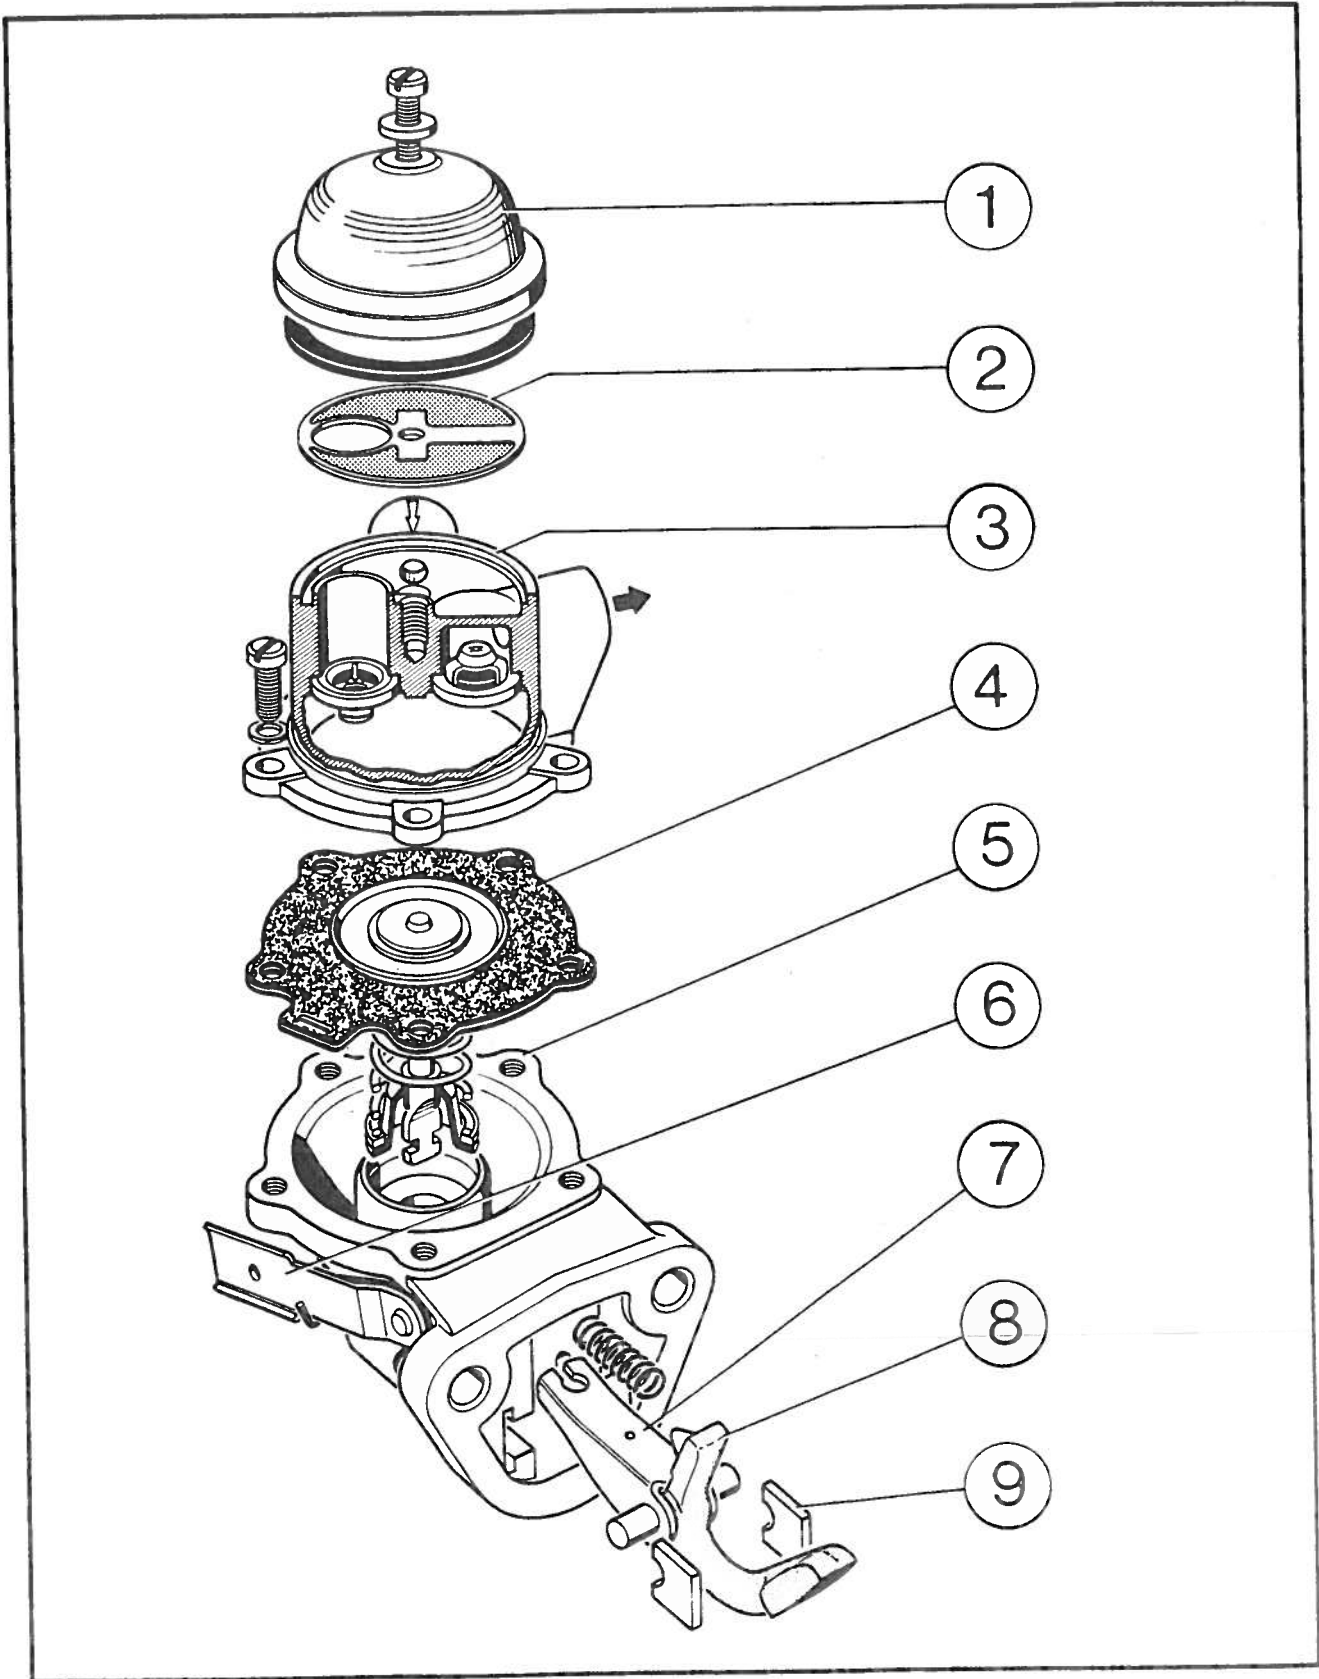

Fig. 35 CAV FUEL LIFT PUMP - STANDARD
1. Unscrew the centre retaining screw and remove the filter bowl, Fig. 35.